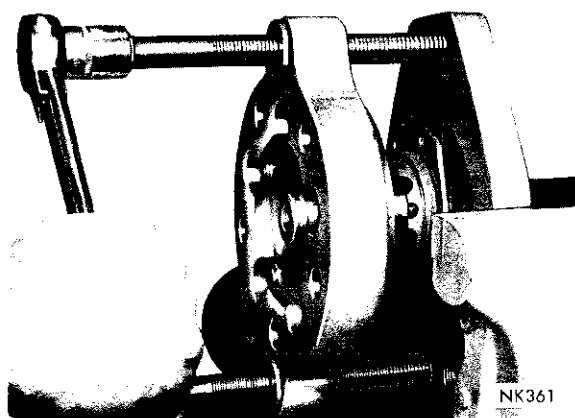

Fig. 12—Removing the Bearing Cone with Tool C-3971
(7) Using Tool C-3971, remove the bearing cone. Tighten the bolts alternately until the cone is removed (Fig. 12).
(8) Replace the seal in the retainer plate.